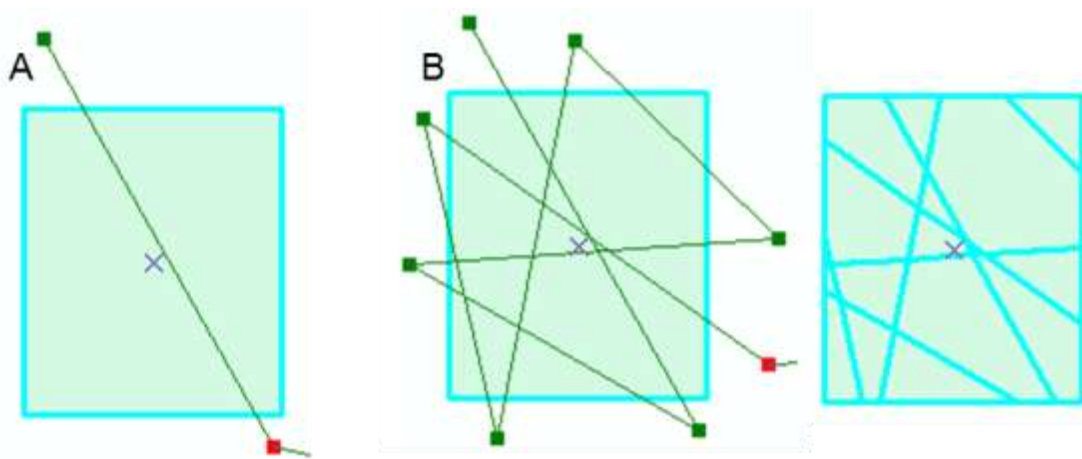

Figure 6-27—The Cut Polygons tool can be used to cut a polygon in half (A), or multiple pieces (B).
To divide the polygon into parts, select the **Cut Polygons** tool . Then draw a line that starts and ends outside of the polygon to cut it where you want (fig. 6-27). This tool can be used to divide the polygon in half (A), or into many parts (B). Once your “cutting” line(s) are complete, double click to cut the polygon (B).